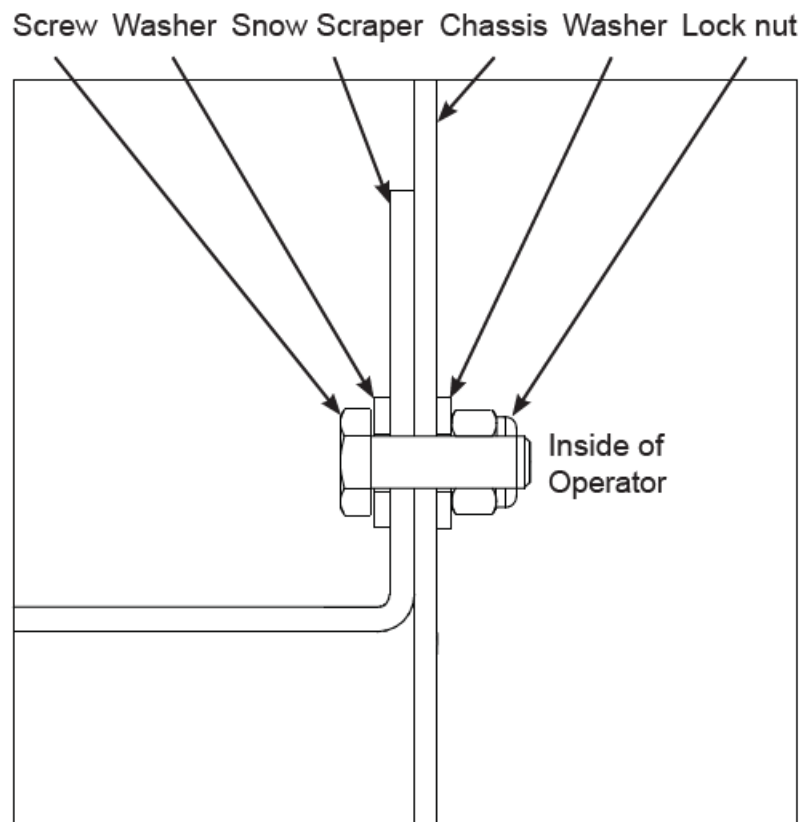

Figure 4. Snow Scraper Bracket Fasteners
2. Take note of the orientation of the right and left snow scrapers. Slide the brackets into place and adjust them so the scraper rests about 1/8 in above the drive rail. Secure the bracket using the fasteners provided (Figure 4 and Figure 6).